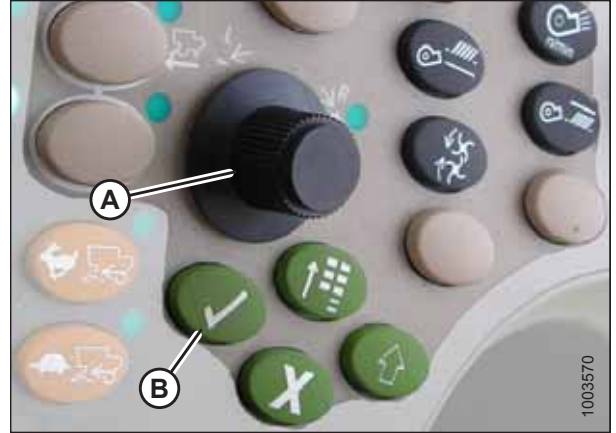

Figure 8.235: John Deere Combine Control Console
8. Select **HEADER** in box (A) by scrolling down to the box using the scroll knob, and then pressing the check mark button (knob and button are shown in Figure 8.235, page 331).
9. Scroll down to the lower right icon that resembles an arrow in a diamond (B) and press the check mark button to select it.